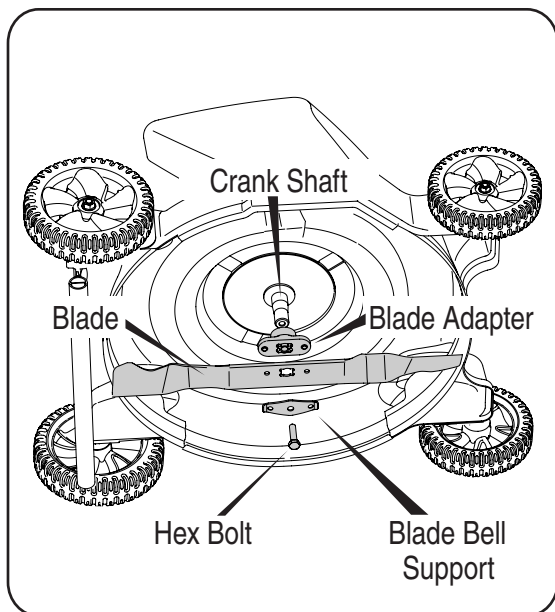

Figure 4
2. Remove the bolt and the blade bell support which hold the blade and the blade adapter to the engine crankshaft. See Figure 4.